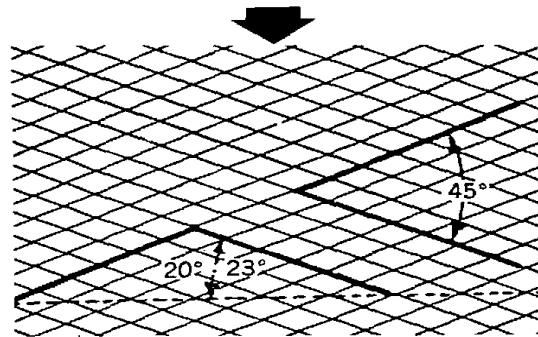

Fig. 56.
For good lubrication and sealing it is important that the cylinder walls retain their original honing pattern, see fig. 56. It is therefore advisable to carry out honing to restore the pattern when:
4. The cylinder liner has a honing pattern, the angles of which have been carefully calculated to give optimum life, see fig. 56.